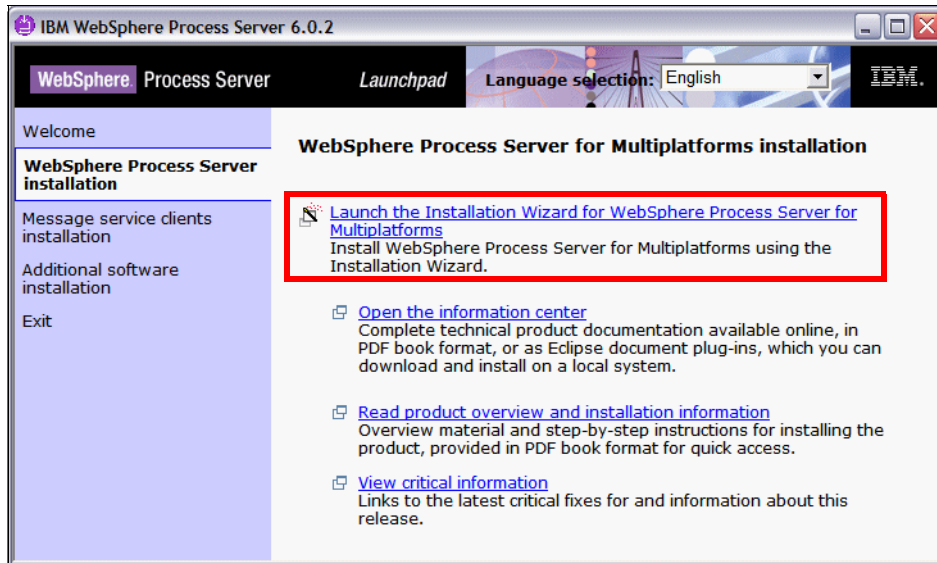

Figure A-16 WebSphere Process Server: Launch installation
- ▶ Select *Launch the Installation Wizard for WebSphere Process Server for Multiplatforms* (Figure A-16).